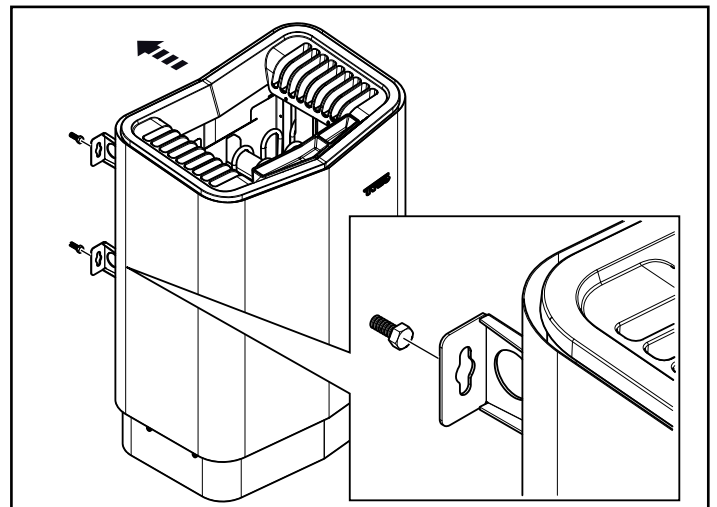

Figure 13: Hang the heater up.
- Hang the heater on the screws see Fig. 13.